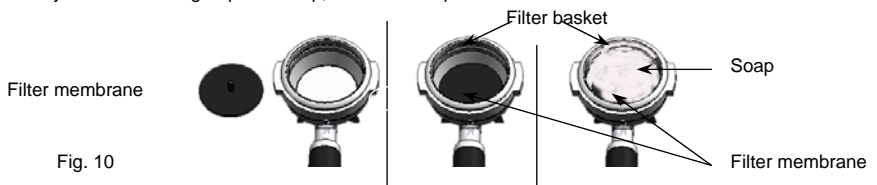

Fig. 10
- Place the filter membrane on the filter basket , -see Fig. 10-.